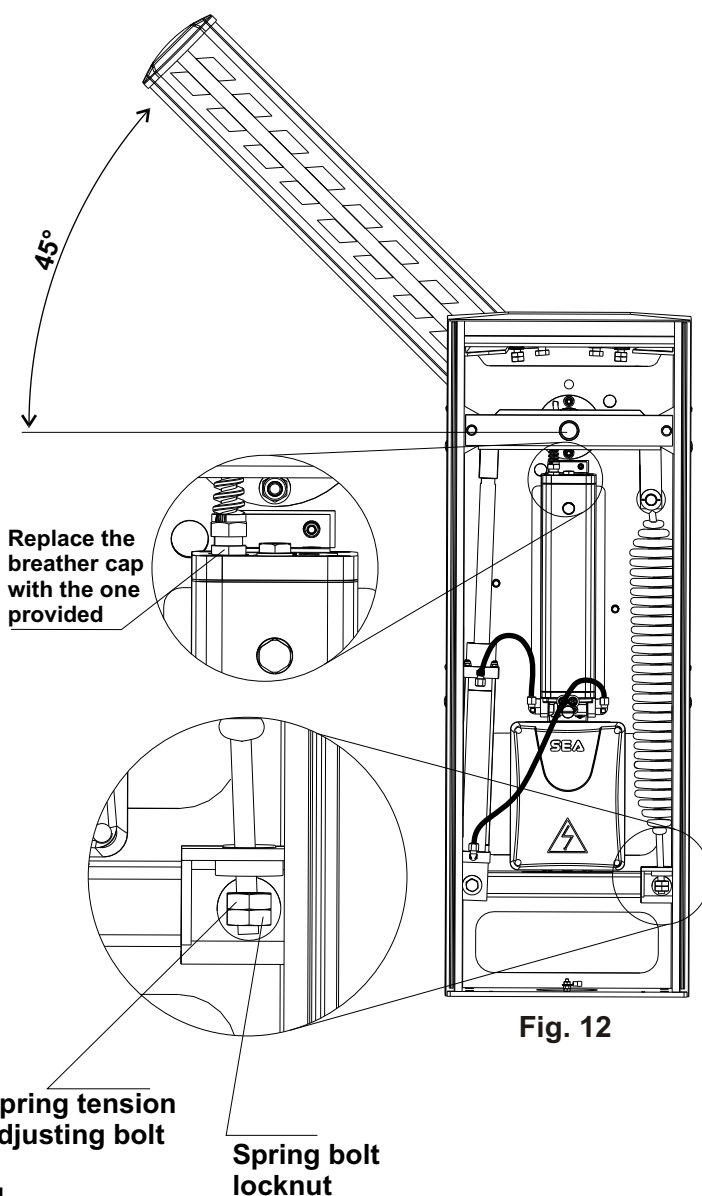

Fig. 12
- Place the beam at approx. 45° and execute the balancing with the nuts of Fig.12.
- Tight or untight the spring adjusting bolt locknut so that the spring reaches a balance point with the beam at 45° (Fig.12).